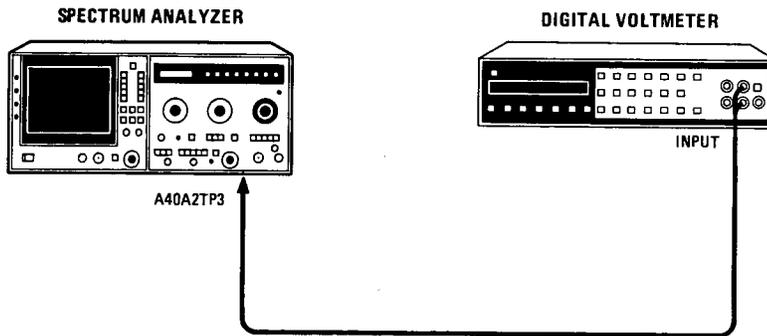

Figure 5-1. Low Voltage Power Supply Check and Adjustment Test Setup
1. Set LINE switch OFF, disconnect power cord, and remove HP 8569B bottom cover to gain access to low voltage power supplies. Connect equipment as shown in Figure 5-1.